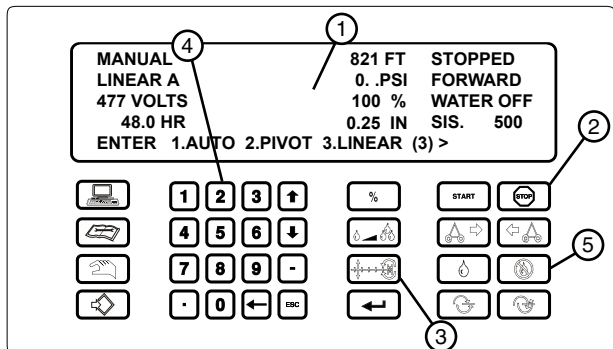

Figure 76-1 1. Control Panel Display. 2. Stop Key. 3. Pivot/Linear Key. 4. Numeric Key. 5. Water OFF Key.
1. At the control panel, press . See figure 76-1.
2. Press  to turn the Water OFF. See figure 76-1.
3. Press  and **2** to change the machine to the pivot mode. See figure 76-1.